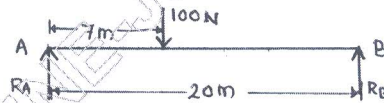

Fig.Q.9(b)
b. Determine the reaction R_A by using ILD (influence line diagram) for beam loaded as shown in Fig.Q.9(b). (10 Marks)